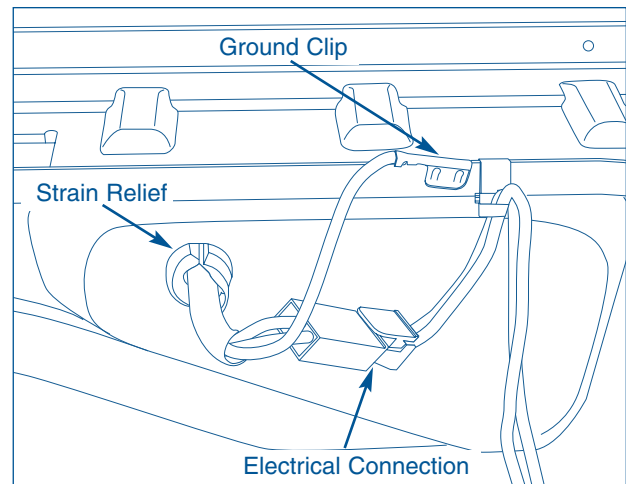

Figure 4-42.
2. Remove the ground clip from the upper rear frame. (See Figure 4-42)
3. Disconnect the power cord from wire harness at the Molex connector. (See Figure 4-42)
4. Using a pliers, compress the strain relief from inside the unit compartment while pushing the strain relief through the hole in the rear panel. Pull power cord from unit. (See Figure 4-42)